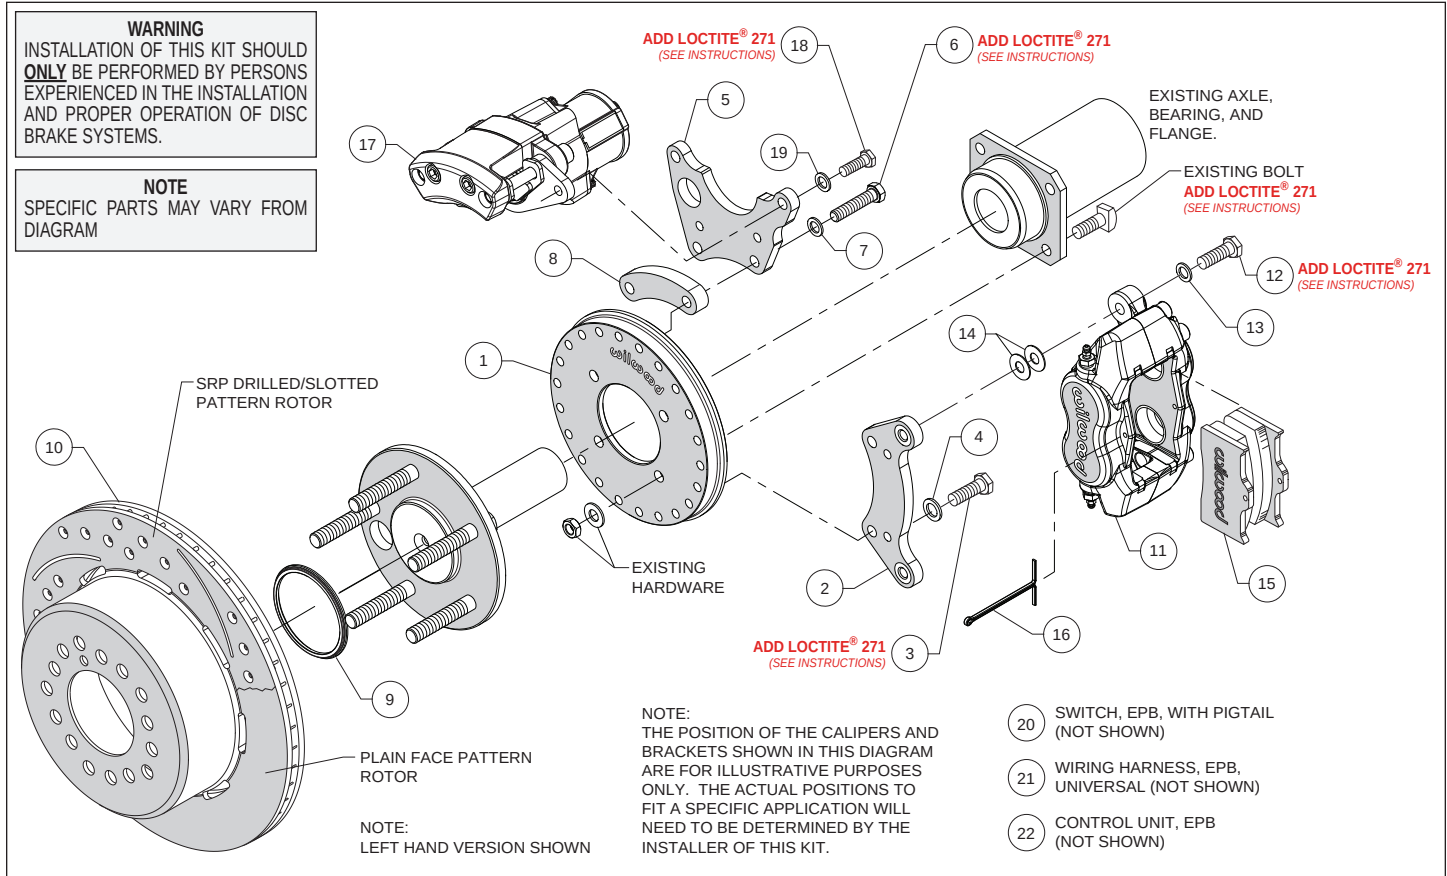
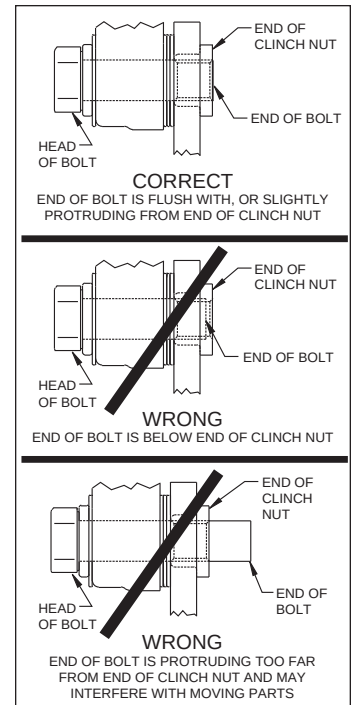

Figure 1. Typical Installation Configuration
Figure 4. Clinch Nut Engagement Diagram
(numbers in parenthesis refer to the parts list, and Figure 1 on the preceding pages): **CAUTION:** All mounting bolts must fully engage clinch nuts. Be sure to check that all bolts are either flush or protruding through flanged side of clinch nut after shimming, Figure 4.
- Orient the backing plate (1) as shown in Figure 1 and Photo 1, and mount it to the axle housing flange using the Original Equipment Manufacturer (OEM) bolts, washers and nuts, Figure 1. Ensure the backing plate fits flush against the axle housing flange. Apply red *Loctite*® 271 to the OEM bolt threads and torque to OEM specifications.
•Start by determining the best location for the service caliper (11). This caliper is usually mounted in the 3:00 or 9:00 o'clock position, but may be rotated up or down approximately 45 degrees and still allow for proper bleeding, Photo 2. Orient the service caliper bracket (2) as shown in Figure 1 and Photo 3, and install to the backing plate (1) in the desired location using bolts (3) and washers (4). Temporarily tighten bolts. Next, mount the service caliper to the bracket using bolts (12) and washers (13). Temporarily tighten bolts. Check that the caliper (including inlet fitting and hose) has sufficient clearance to all surrounding components through the full suspension travel. Relocate the caliper/bracket on the backing plate as needed to ensure proper clearance is achieved.
•Determine the best location for the EPB caliper (17). **NOTE:** The EPB caliper motor extends farther inboard than the service caliper and therefore needs additional consideration when determining a mounting location with sufficient clearance. In the example application shown in Photo 4, the EPB caliper has sufficient inboard clearance to the leaf spring. However, if the EPB caliper were mounted closer to the 12:00 o'clock position, the inner body of the vehicle would hit the caliper during full compression of the suspension.
•Orient the EPB caliper bracket (5) as shown in Figure 1 and Photo 5, and install to the backing plate (1) in the desired location using bolts (6), washers (7), and spacer (8). Temporarily tighten bolts. **NOTE:** The EPB bracket is reversible. In one direction the bracket will position the EPB caliper closer to the service caliper, and vice versa if reversing the bracket. Next, mount the EPB caliper (17) to the bracket using bolts (18) and washers (19). Temporarily tighten bolts. **NOTE:** EPB calipers are Left and Right handed, however they can be used on either side of the vehicle to best suit your specific application. Check that the EPB caliper (including wiring harness connector) has sufficient clearance to all surrounding components through the full suspension travel. Relocate the EPB caliper/bracket on the backing plate as needed to ensure proper clearance is achieved.
- NOTE:** Please reference the caution statement at the beginning of the assembly instructions. Remount the service caliper (11) onto the caliper mounting bracket (2) using bolts (12) and washers (13), as shown in Figure 1. Initially place two .035" thick shims (14) on each bolt between the caliper and the bracket, Photo 7. Temporarily tighten the mounting bolts and view the rotor (10) through the top opening of the caliper. The rotor should be centered in the caliper, Photo 8. If not, adjust by adding or subtracting shims (14) between the bracket (2) and the caliper (11). Always use the same amount of shims on each of the two mounting bolts. **NOTE:** The end of each bolt must be flush with or slightly protruding from the head of the clinch nut, as shown in Figure 4. If necessary place spare shims (14) between washer (13) and caliper mounting ear to achieve the proper clinch nut engagement. Once the caliper alignment and clinch nut engagement are correct, remove the bolts one at a time, apply red *Loctite*® 271 to bolt threads, and torque to 40 ft-lb.
- Install the disc brake pads (15) into the service caliper (11), with the friction material facing the rotor (10), Photo 9. Secure the pads in place using the cotter pin (16), Photo 10.